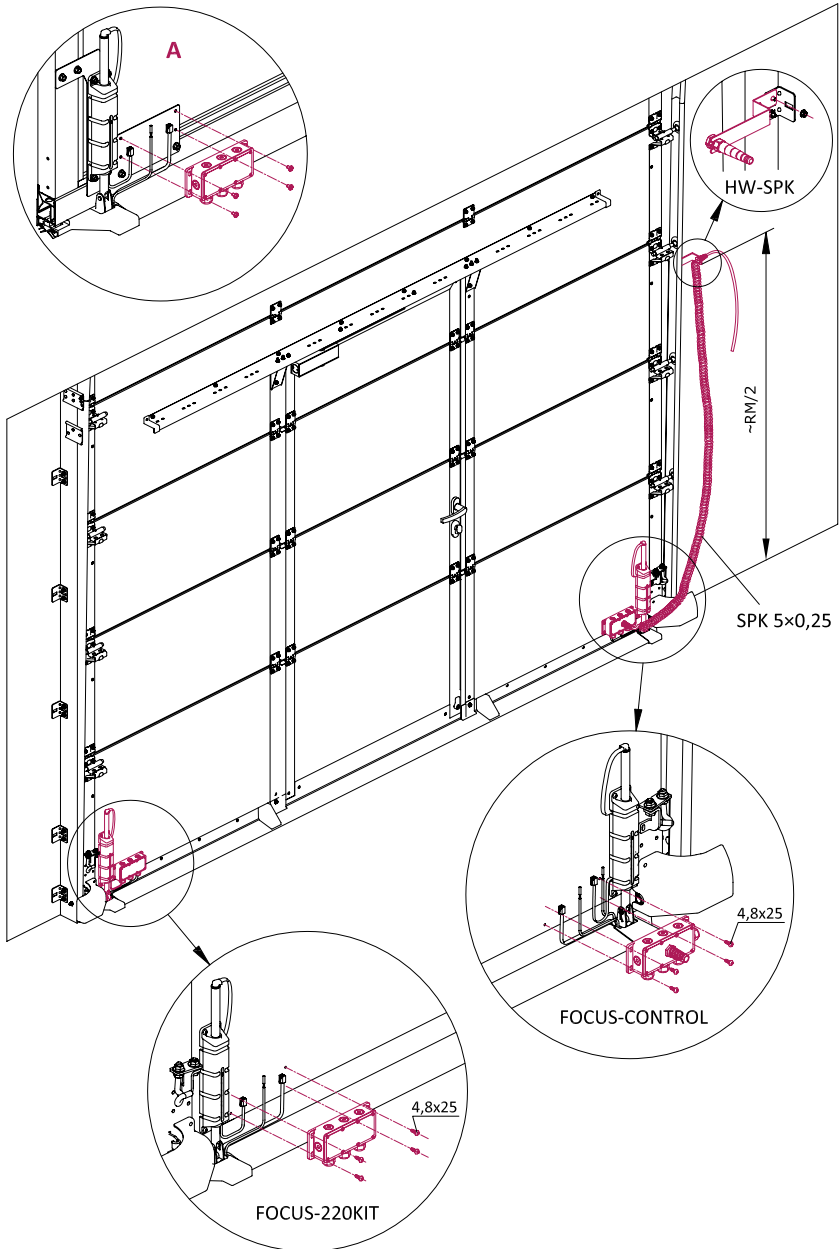

Fig. 2 — Installation of **FOCUS-210** and **FOCUS-220KIT**
- Install the boxes of **FOCUS-210 (FOCUS-CONTROL)** and **FOCUS-220KIT** (fig. 2) on the door leaf made of sandwich panels, using 4.8×25 screws (8 pieces are included in the door delivery kit). There are two premade holes in the door leaf that determine the location of the boxes.
If the bottom door section is panoramic, the boxes are fixed to the preinstalled steel plates (fig. 2, View A) using M5×8 screws (8 pieces are included in the door delivery kit).
- Install the bracket **HW-SPK** (fig. 2) on the outside of the angle track profile not lower than half of the door opening height (approx. **RM/2**).
- Insert the short end of the **SPK 5×0.25** spiral cable (fig. 2) through the special cable entry of the **FOCUS-CONTROL** box, and insert the long end through the cable entry of the **HW-SPK** bracket.